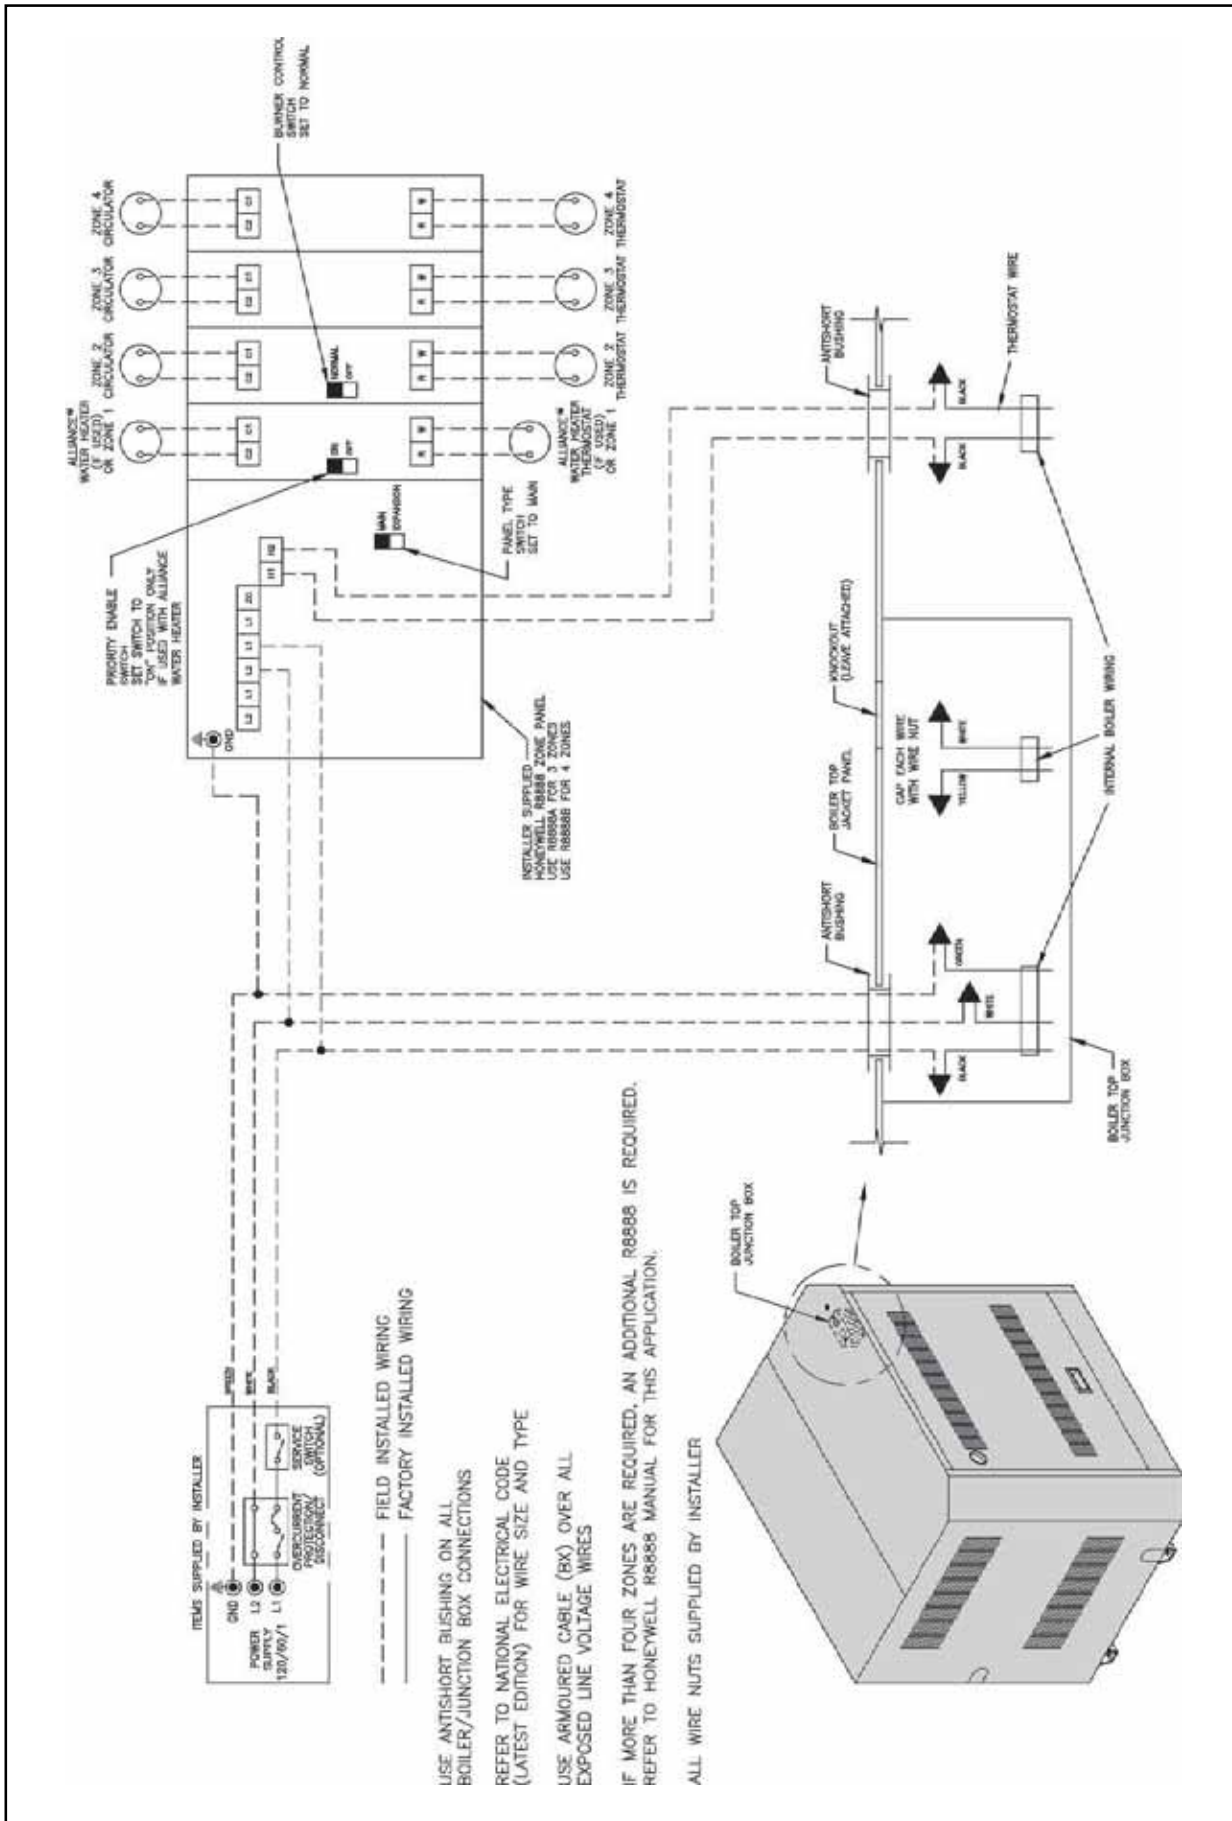

Figure 35: Circulator Zoned System Wiring Schematic
7. Conventional Circulator Zoned System – Refer to Figure 35 of this manual for the electrical diagram for this type of system.